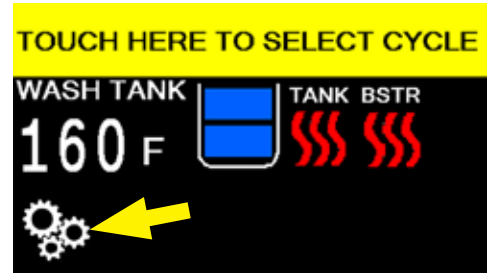

Fig. 52 - Press SETTINGS on main screen.
1. Press the SETTINGS button, "gears", on the main screen, (Fig. 52).